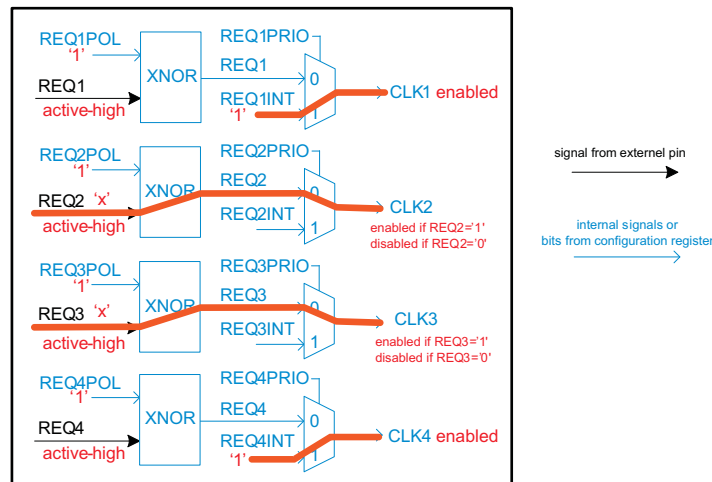

Figure 26. Clock Output Enable Signal (Shaded Line Marks Power-Up/Default Setting)
(1) All data is transferred with the MSB first.
(2) A device reset to default condition is initiated by a  $V_{DD\_DIG}$  power-up sequence.
(4) Inactive as long as the REQxPRIO bit is low, external REQx pins are valid (see Figure 26)
(5) Writing data beyond 03h may affect device function.